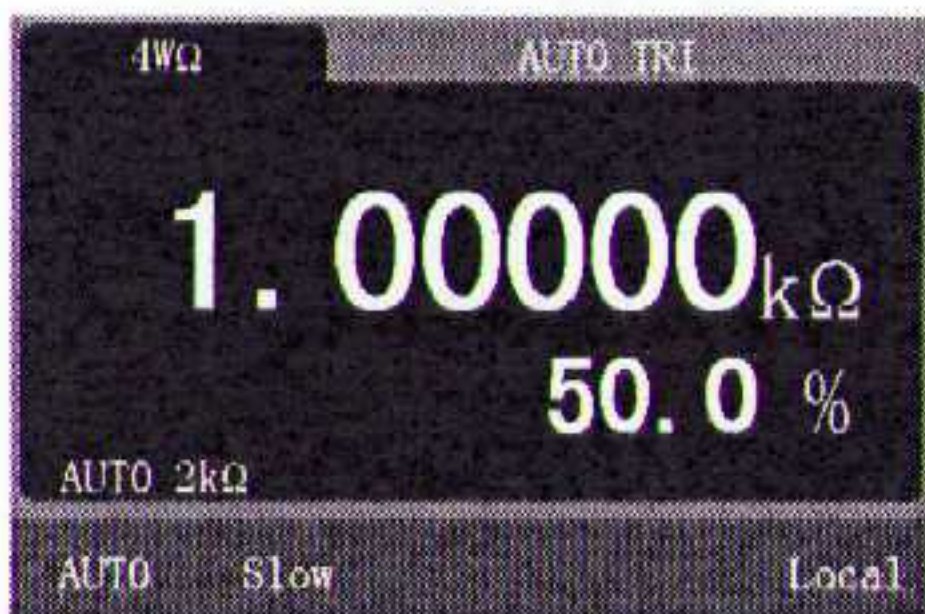

Figure 4-13 Measurement interface
1. In the 2-wire resistance measurement function, press  again to select the 4-wire resistance measurement function. The measurement interface is shown in Figure 4-13.